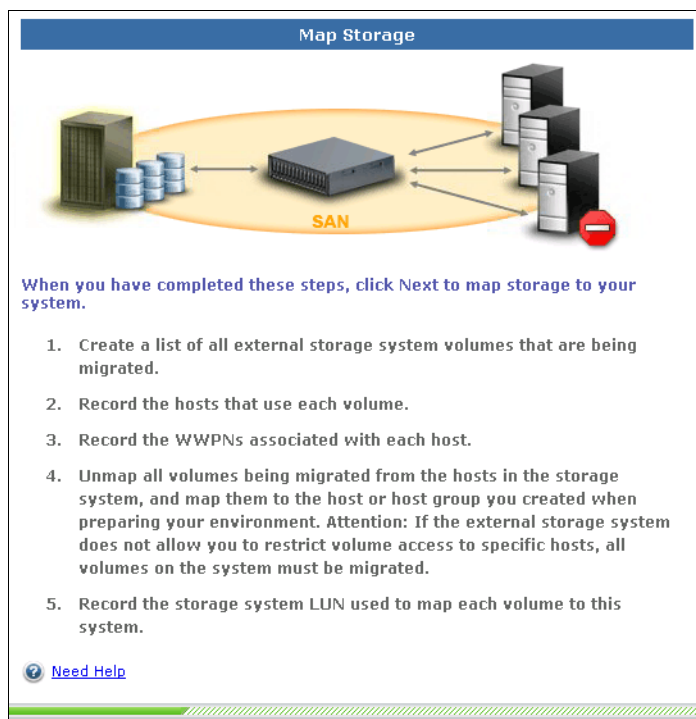

Figure 6-6 Map Storage
3. Figure 6-6 shows the third step (panel) of the storage migration wizard. Do everything that is listed as part of step 3. and complete. Be sure to record the information mentioned in this step, because you need it for later steps. Click **Next**.